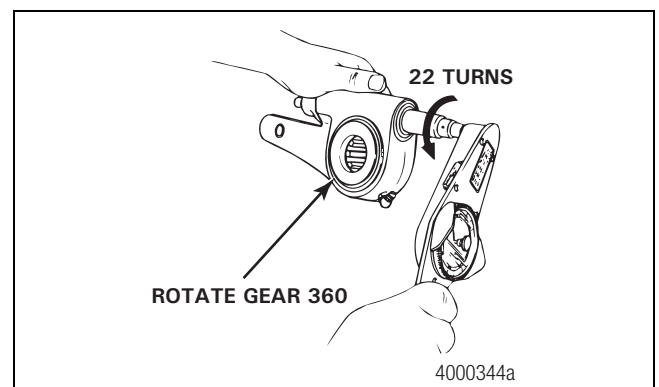

Figure 3.12
4. Check the slack adjuster gear torque. Use a lb-in torque wrench and turn the adjusting nut **COUNTERCLOCKWISE** (Figure 3.12) to rotate the gear 360 degrees, or 22 turns of the wrench, as you read the torque scale on the wrench. The value should be less than 45 lb-in (5 N•m) as you rotate the gear.